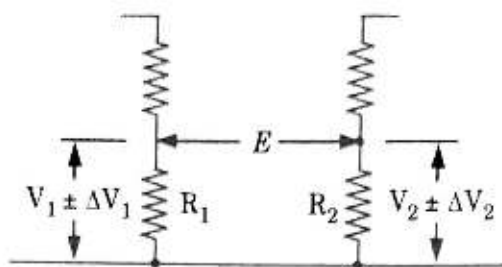

Fig. 1.19.2. Error in difference of quantities equals sum of errors.
1. Fig. 1.19.2 illustrates a situation in which a potential difference is determined as the difference between two measured voltages. Here again, the errors are additive :